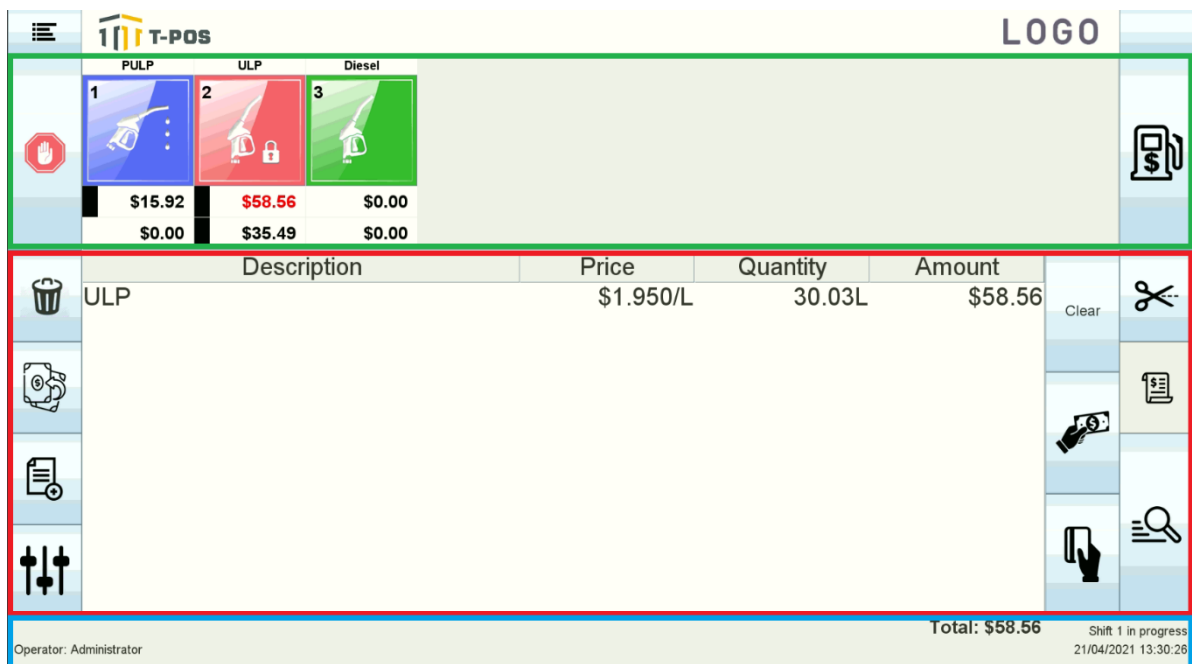

Figure 17: T-POS Application Main Screen
The T-POS functionality is grouped into “zones”, colour coded in Figure 17 and further explained on the following page.
**Highlighted in Green** in Figure 17, the top position is used for managing the dispensers on the forecourt, displaying information in text and showcasing each dispenser state by changing its icon colour. For more information on basic dispenser control and what state each colour signals, read chapter 4.3 Basic Dispenser Control.
**Highlighted in Red** in Figure 17, the central position is used for the sales ledger (containing the sale items, either wet stock or dry stock) and action buttons related to the sale process.
**Highlighted in Blue** in Figure 17, the bottom panel is used for displaying information about the logged in Operator (depending on the used passcode, the Operator will be uniquely identified and displayed here), the sale total amount, the current time and the Shift status (for more information, read chapter 4.1 Day and Shift Control).